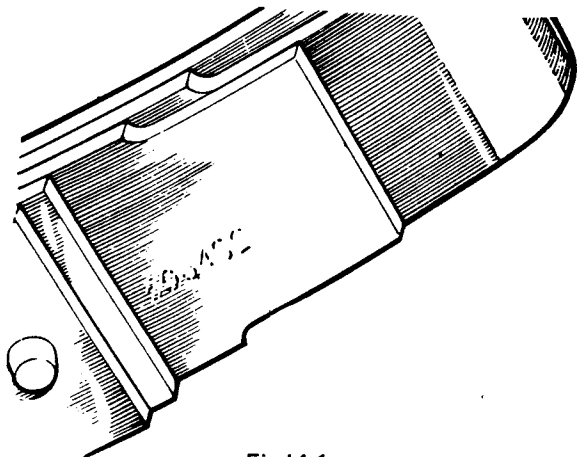

Fig I4.1
- (1) Refer to Fig I4.1. The driver side and passenger side road springs are interchangeable. Springs are identified with the part number which is marked on the top face and on the under face of one of the leaves.
- (2) Jack up the vehicle and support on stands.
- (3) Remove the road wheel.
- (4) Support the axle with a jack.